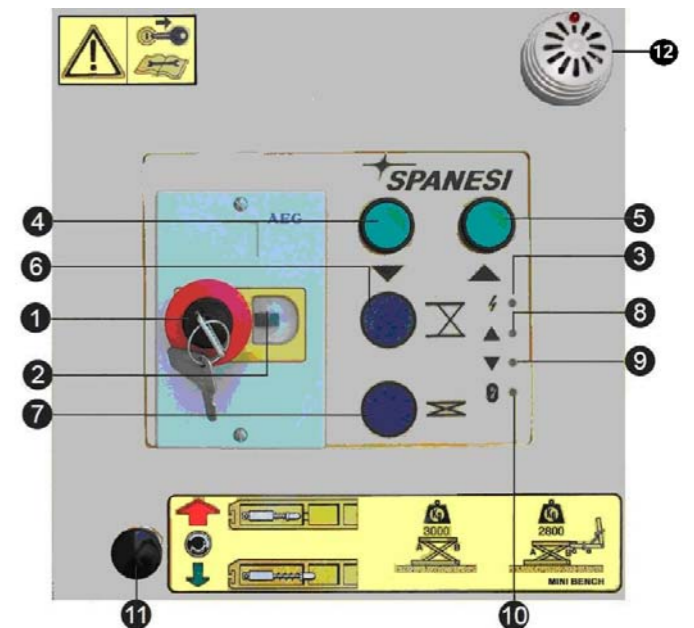

Figure 7
Check the correct electrical connection to the supply mains as follows (see figure 7):
- Pull the mushroom-shaped emergency button until it is released (1 - fig. 7).
- Press the reset button (2 - fig. 7) on the right of the mushroom-shaped emergency button (1 - fig. 7): the white pilot light (3 - fig. 7) will come on to indicate power on. If there is no power, check the connections.
- Press the <ascent> button (5 - fig. 7) for approximately three seconds: the lift should move upwards.